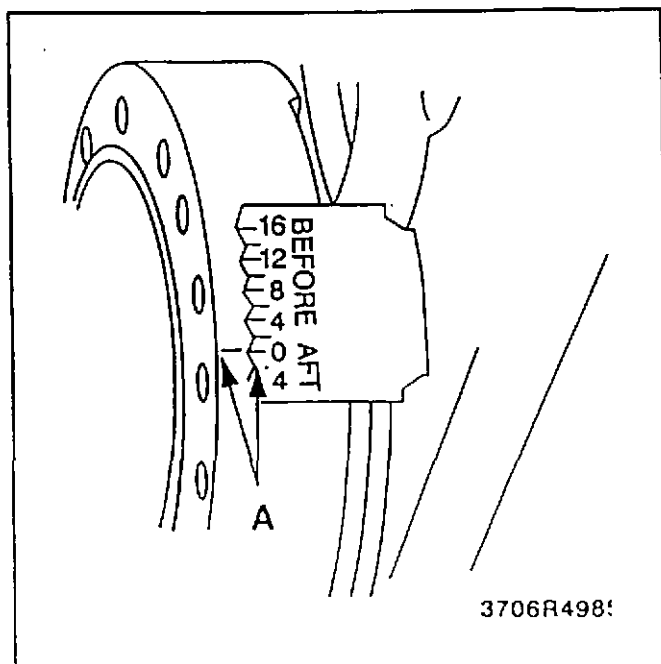

Figure 92—Timing Marks
2. Crank the engine until the mark on the torsional damper lines up with the center or "0" mark on the timing tab (figure 92). The engine must be in the number one firing position. This may be determined by placing fingers on the number one cylinder's valves as the mark on the damper comes near the "0" mark on the crankcase front cover. If the valves